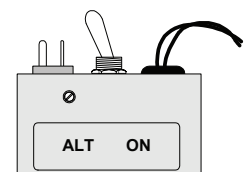

Fig. 2-1, SPI Toggle Switch
1. Verify Service Power Inserter (SPI) toggle switch is set to the ALT position (Fig. 2-1).